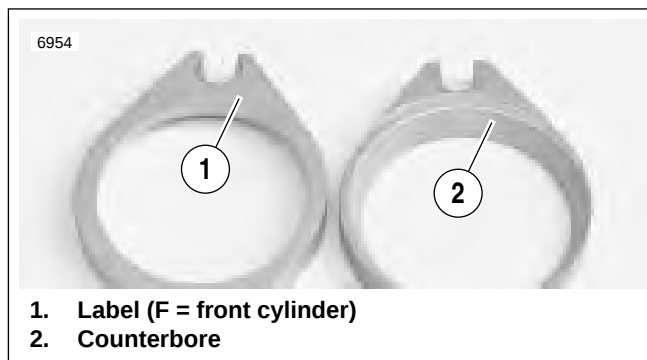

Figure 4-98. Intake Flanges
1. See Figure 4-98. Install front and rear intake flanges onto manifold with the counterbore facing out. Each intake flange is labeled and the pieces are not interchangeable.